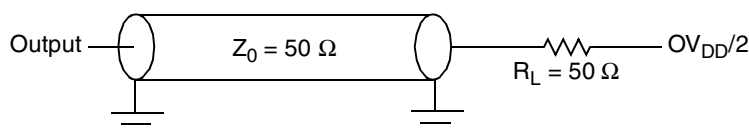

Figure 29. AC Test Load for the JTAG Interface
1. All outputs are measured from the midpoint voltage of the falling/rising edge of  $t_{TCLK}$  to the midpoint of the signal in question. The output timings are measured at the pins. All output timings assume a purely resistive 50- $\Omega$  load (see Figure 29). Time-of-flight delays must be added for trace lengths, vias, and connectors in the system.
2. The symbols used for timing specifications follow the pattern of  $t_{(first\ two\ letters\ of\ functional\ block)(signal)(state)(reference)(state)}$  for inputs and  $t_{(first\ two\ letters\ of\ functional\ block)(reference)(state)(signal)(state)}$  for outputs. For example,  $t_{JTDVKKH}$  symbolizes JTAG device timing (JT) with respect to the time data input signals (D) reaching the valid state (V) relative to the  $t_{JTG}$  clock reference (K) going to the high (H) state or setup time. Also,  $t_{JTDXKH}$  symbolizes JTAG timing (JT) with respect to the time data input signals (D) went invalid (X) relative to the  $t_{JTG}$  clock reference (K) going to the high (H) state. Note that, in general, the clock reference symbol representation is based on three letters representing the clock of a particular functional. For rise and fall times, the latter convention is used with the appropriate letter: R (rise) or F (fall).
Figure 29 provides the AC test load for TDO and the boundary-scan outputs.
Figure 29 provides the AC test load for the I2C.